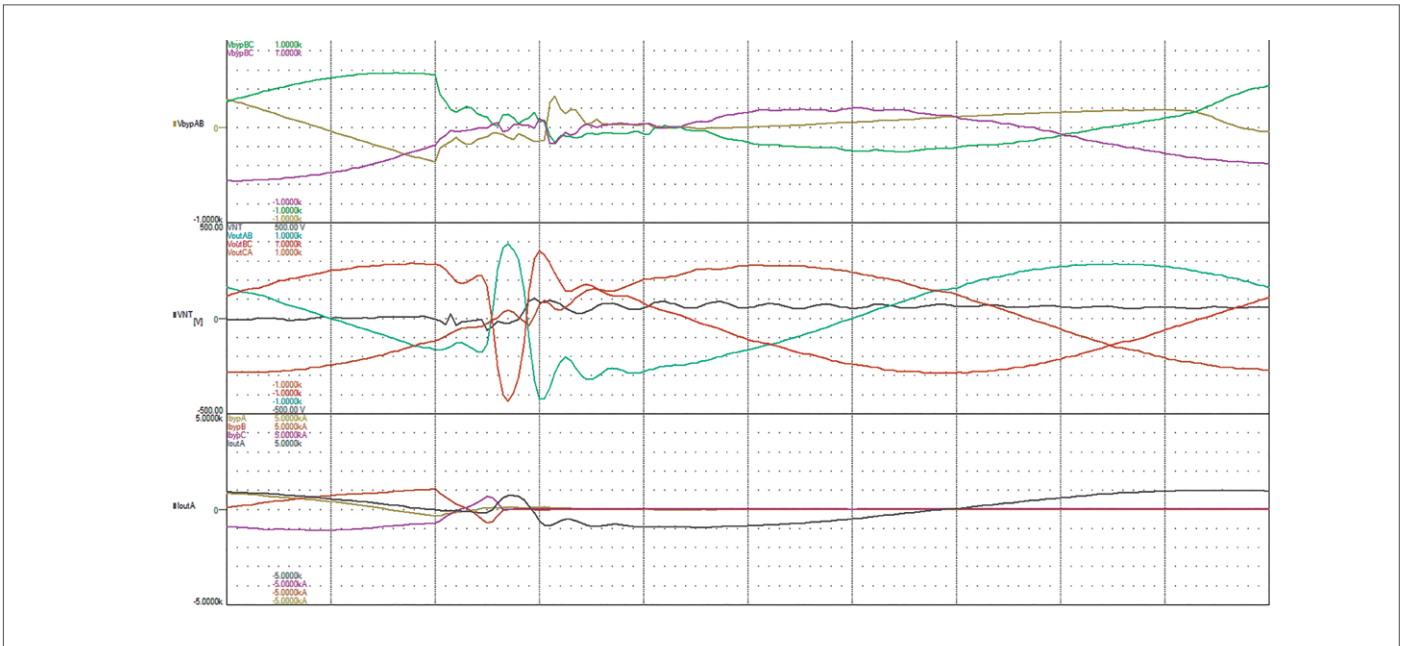

Figure 6. Upstream short in VI mode. From top to bottom: bypass input voltages, inverter output voltages, bypass and output currents. Time 2ms/div.
Figure 6 illustrates how the Trinergy Control handles an upstream short circuit with high efficiency mode (VI) enabled. While operating in VI mode, the short circuit forces the bypass input voltage to zero. As soon as the bypass input goes out of tolerance, the UPS control switches to VFI mode while sending a signal to turn off the bypass SCRs. The resulting transfer time is within 2 milliseconds, considerably lower than the previous product generation transfer time that was up to 10 milliseconds. This allowed many customers to start using this functioning mode effectively as it significantly minimizes the transfer time between functioning modes. Based on Trinergy Control's 10 years of experience on the market, **Vertiv has further enhanced controls reaching a 0 milliseconds transfer by means of Dynamic Online mode.**